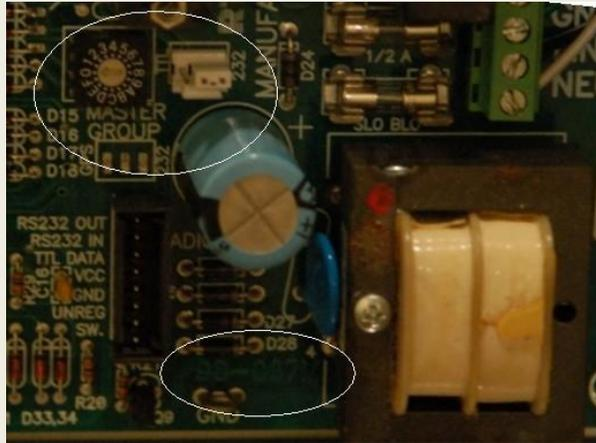

Fig. 13
1. The board revision label has the letter M in it. You will see it on the bottom of the circuit board. The revision information is plated in the circuit board to the left of the transformer. Notice in the picture (Fig. 13), the letters 90-0071M are visible. The numbers may be different on your board, as this is the lot number. The key identification is the letter M at the end.
2. There is a rotary switch that selects the master group number. There are some earlier versions of CPR2102 boards that have rotary switches, so this alone does not positively identify a board as an M board. However, *all* M boards have this rotary switch. You can see the switch in the upper left oval of Fig. 13.